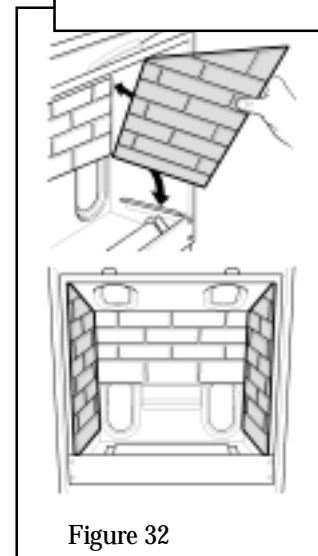

Figure 32
2. Locate the side walls in the channels at the sides of the firebox. See figure 32.